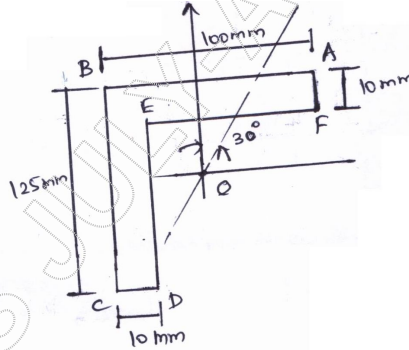

Fig. Q1 (b)
- b. Fig. Q1 (b) shows the section of an angle purlin. A bending moment of 3000 Nm is applied to the purlin in a plane at an angle of 30° to the vertical y axis. If the sense of the bending moment is such that both its components M_x and M_y produce tension in the positive xy quadrant, calculate the maximum direct stress in the purlin, stating clearly the point at which it acts. (08 Marks)